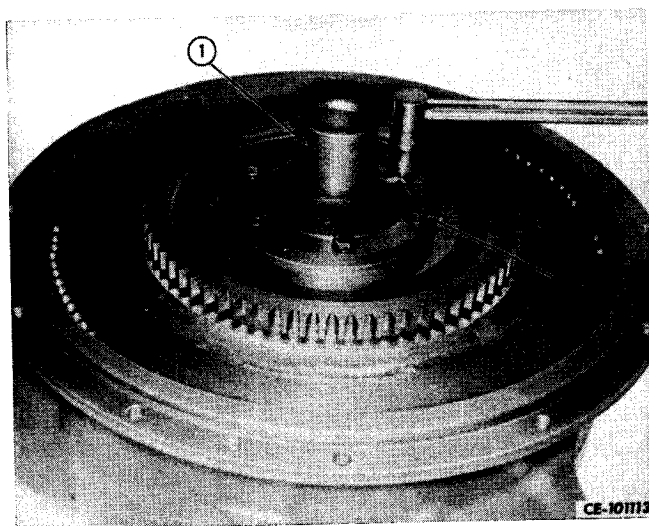

Figure 3-62
Install input hub (1, Fig. 3-62) and secure with cap screws (2) and lock washers. Tighten cap screws to recommended torque (refer to "SPECIAL TORQUES").